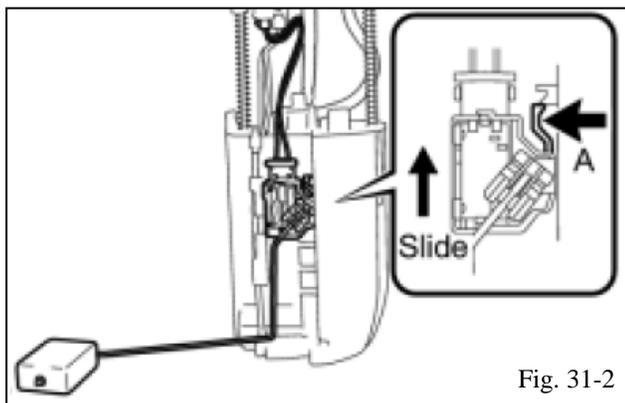

Fig. 31-2
- (b) Press down on the sender gauge claw labeled "A" and slide the sender gauge upward to remove it (Fig. 31-2).